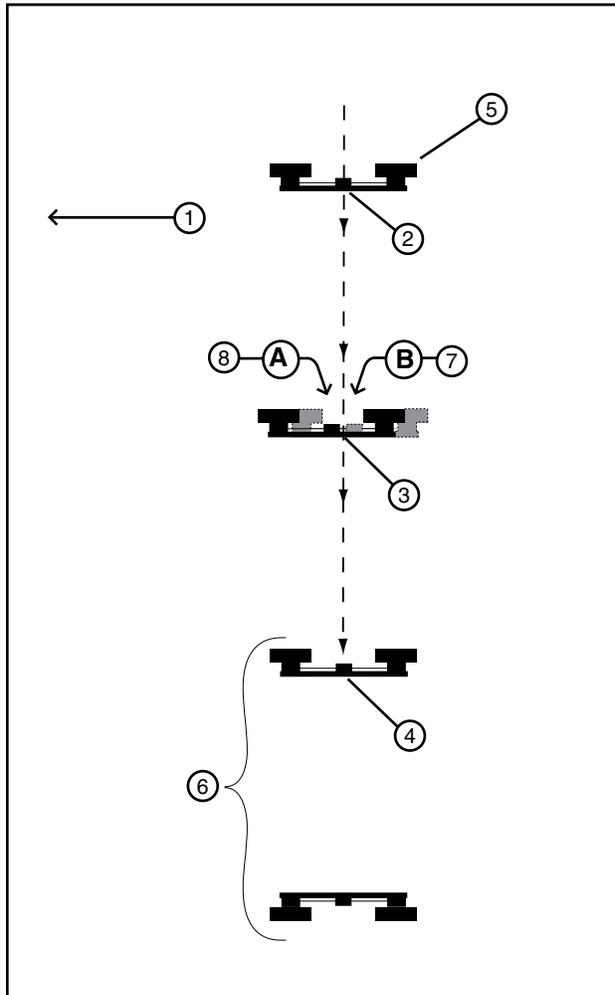

Figure 50-1 1. Direction of Travel 5. End Tower
2. Begin the alignment procedure from the end tower. Identify the first three towers as 1, 2, and 3. Use towers 1 and 3 to align tower 2. See figure 50-1.
3. Sight an imaginary center line between the center of the tower drive motor 1 to the center of the tower drive motor 3. See figure 50-1.
4. Observe the movement of the tower drive motor 2. It should start and stop equal distances from the imaginary center line. See figure 50-1.